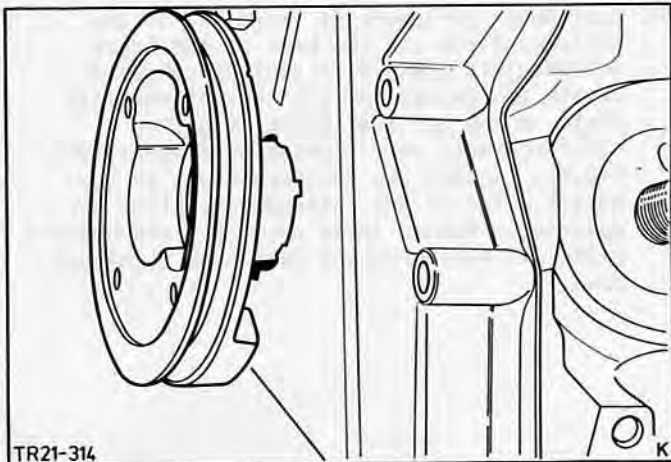

Fig.58. Centre timing cover with crankshaft belt pulley.
44. Fit gasket and mount timing cover, centering the cover with the aid of the crankshaft belt pulley, Fig.58. Tighten bolts to specified torque.